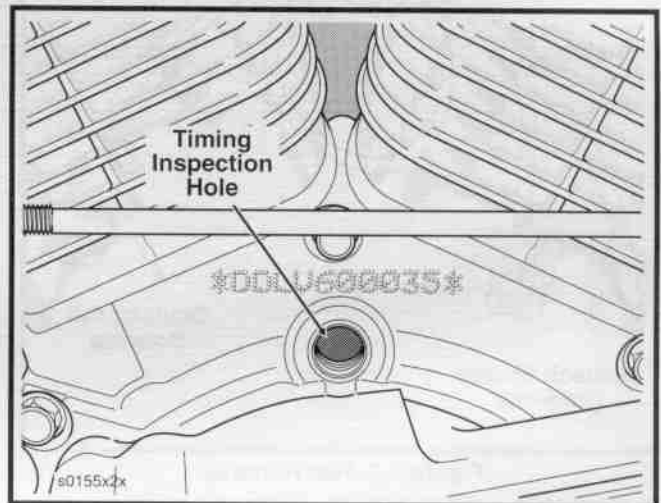

Figure 8-2. Remove Plug From Timing Inspection Hole (Left Side View)
7. See Figure 8-2. Remove the timing plug from the timing inspection hole centered below the cylinders on the left side of the crankcase.
1. See Figure 8-2. Remove the timing plug from the timing inspection hole centered below the cylinders on the left side of the crankcase.